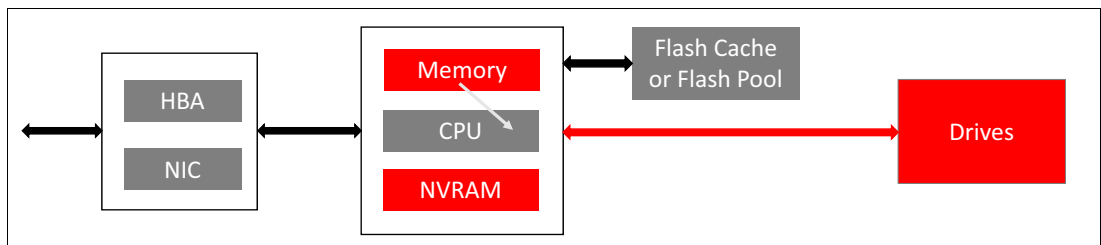

Figure 11 Consistency point
At a later point in time, called a consistency point (CP), the data buffered in main memory is efficiently striped to disk (Figure 11). CPs can be triggered for several reasons, including time passage, NVRAM utilization, or system-triggered events such as a Snapshot copy.